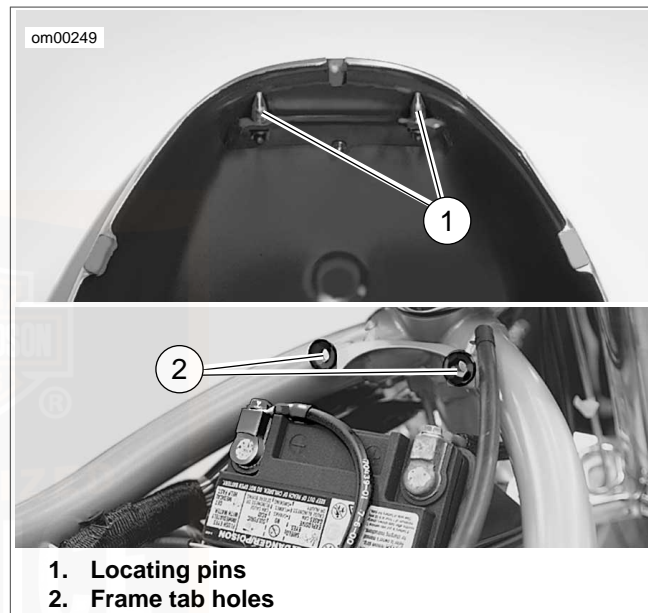

Figure 46. Airbox Cover Mounts: VRSC Models
11. See Figure 46. Position the airbox cover with the locating pins in the holes on the frame tabs.